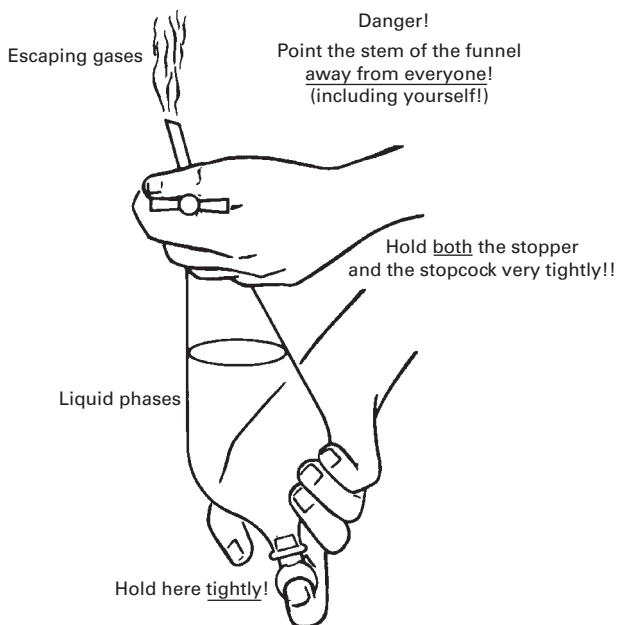

FIGURE 15.3 Holding a sep funnel so as not to get stuff all over.
7. Invert the sep funnel (Fig. 15.3).